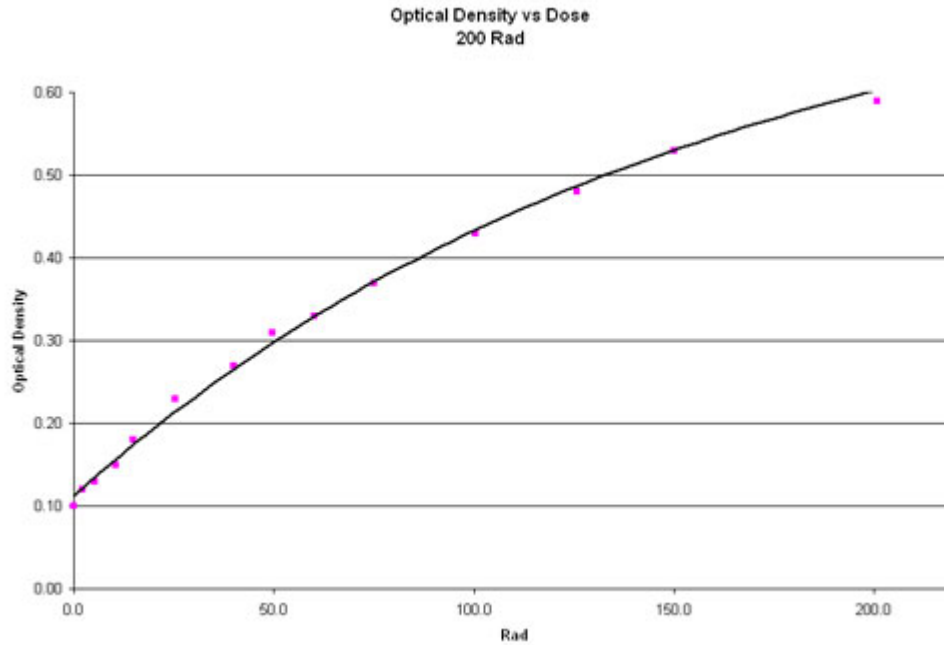

Figure 3. A plot of optical density versus dose (batch #0406).
The color intensity of the sensor increases with increasing dose. A plot of the sensor's optical density (OD) (batch #0406) versus dose is shown in Figure 3. Dose can be estimated with an accuracy of about
10% by determining optical density of the sensor using the plot of Figure 3. **Note:** The data provided on this page (e.g., Figures 2 and 3) are applicable only for the dosimeter shown in Figure 1 (batch 0406). Other batches of dosimeters may have different properties and hence the data of Figures 2 and 3 can't be used for estimation of dose for the dosimeters from other batches.